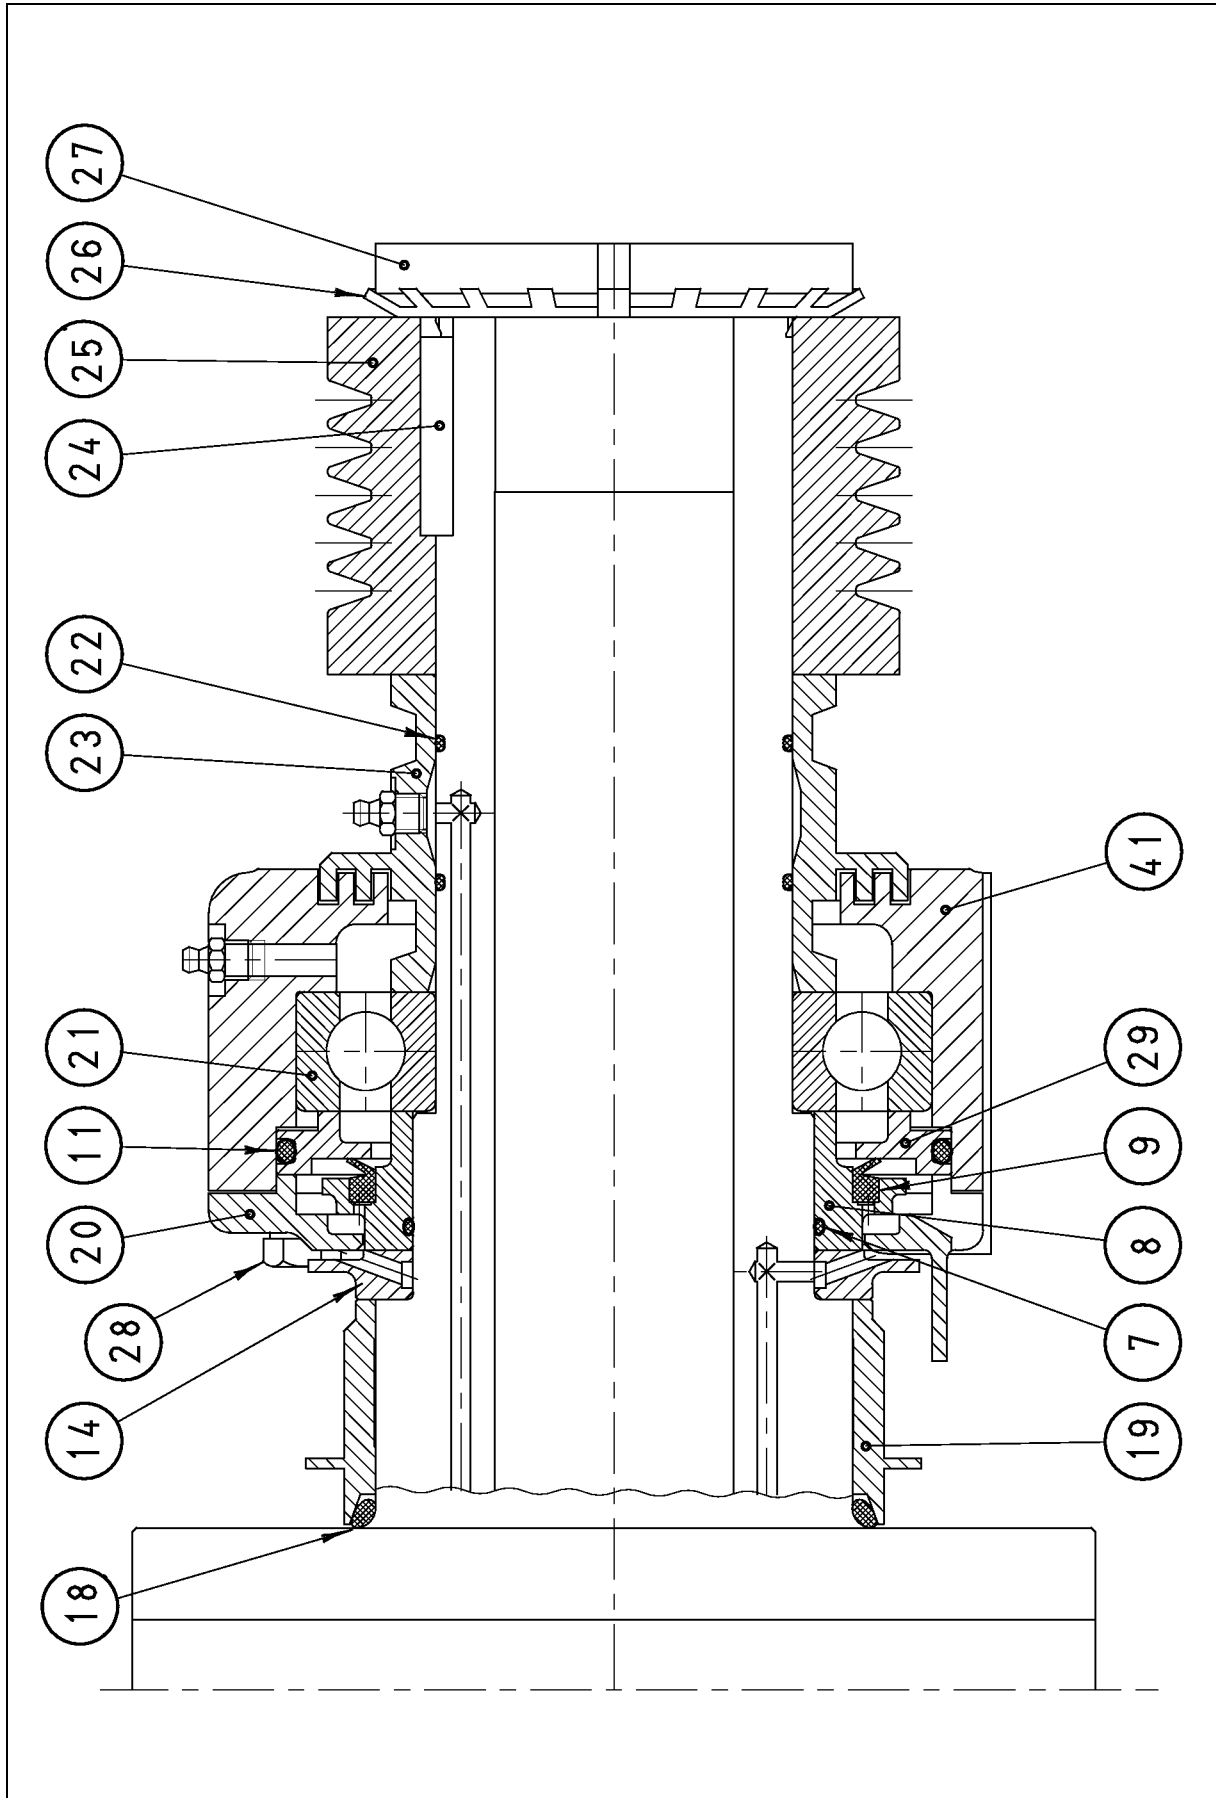

Figure 4.2.3
(Fig. 4.2.3)
4.2.4 Assemble Main Bearing Small End (Fig. 4.2.3)